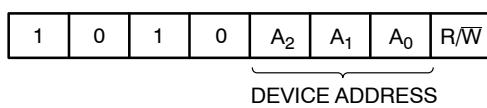

Figure 3. Slave Address Bits
The Master addresses a Slave by creating a START condition and then broadcasting an 8-bit Slave address. For the CAV24C64, the first four bits of the Slave address are set to 1010 (Ah); the next three bits, A₂, A₁ and A₀, must match the logic state of the similarly named input pins. The R/W bit tells the Slave whether the Master intends to read (1) or write (0) data (Figure 3).